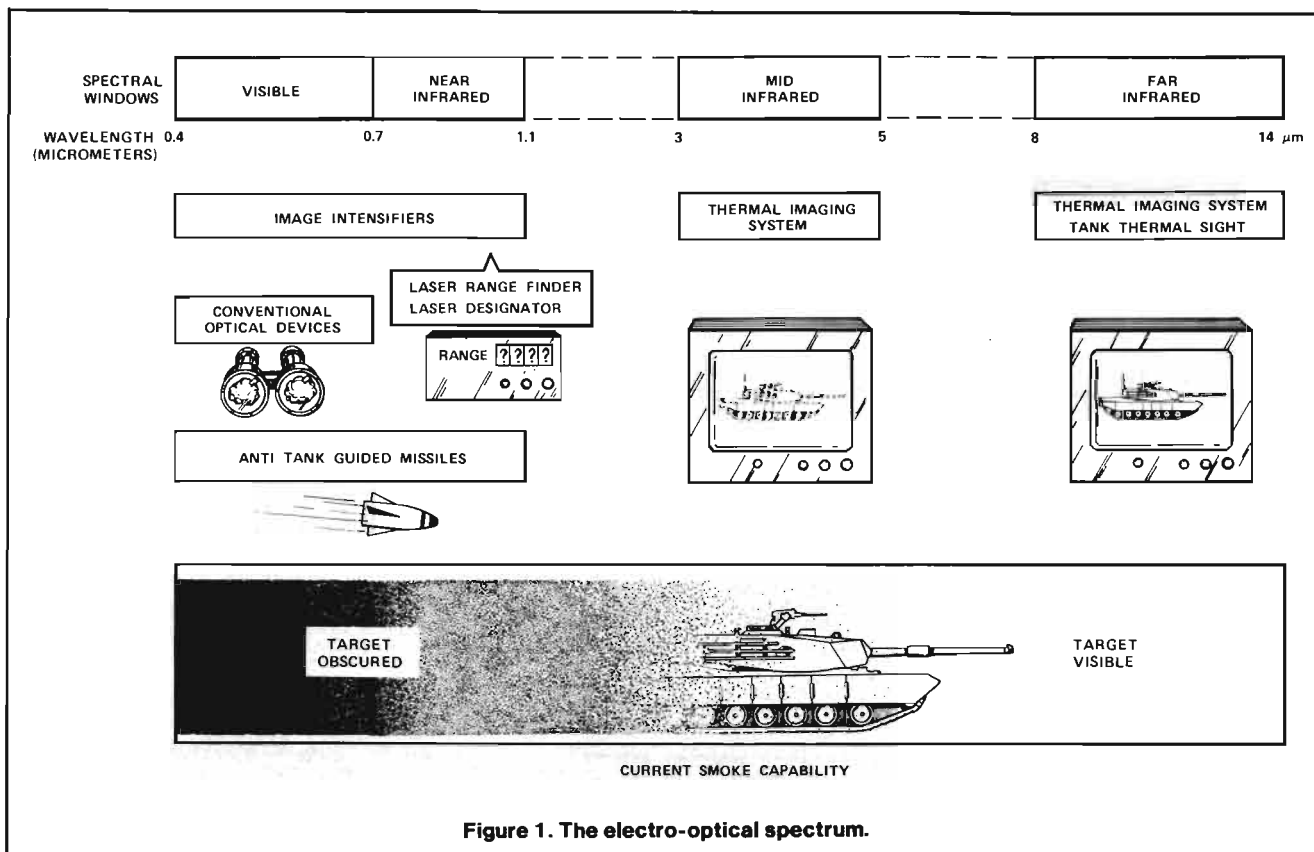

Figure 1. The electro-optical spectrum.
Figure 1 shows the relationship between wavelength, atmosphere transmission bands, and operating regions of typical electro-optical systems. The transmission bands of interest are the visible 0.4 - 0.7 μm , near-infrared (0.7 - 1.1 μm), mid-infrared (3 - 5 μm), and far-infrared (8 - 14 μm). As shown, WW II-technology smokes (fog oil, HC, red phosphorus (RP), and (WP) can seriously degrade optical systems operating in the visible and near infrared bands. These systems include ATGMs, visual sighting devices, and the neodymium laser, a type used extensively in rangefinders and target designators.